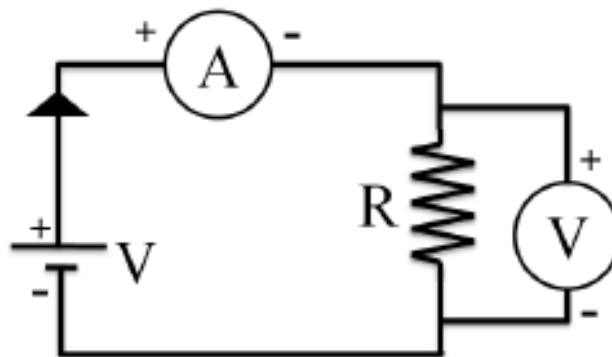

Figure 3.3 The circuit to be set up to examine the relationship between current and voltage.
- Then set up the circuit in Figure 3.3 on the board for all three resistors and fill the table 3.1 by applying different potential differences and determining the I-V values.